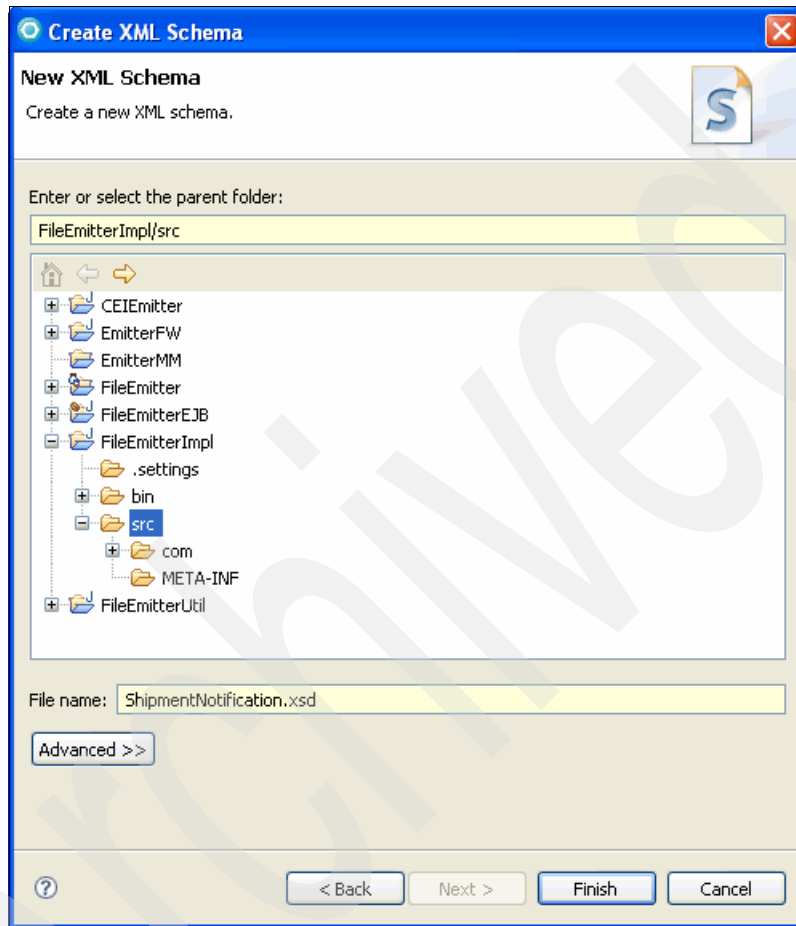

Figure 9-16 Specifying the target location of the XML schema
3. In the Create XML Schema – New XML Schema window (Figure 9-16), expand **FileEmitterImpl** and select **src**. For File name of the XML Schema, type **ShipmentNotification.xsd**. Click **Finish**.